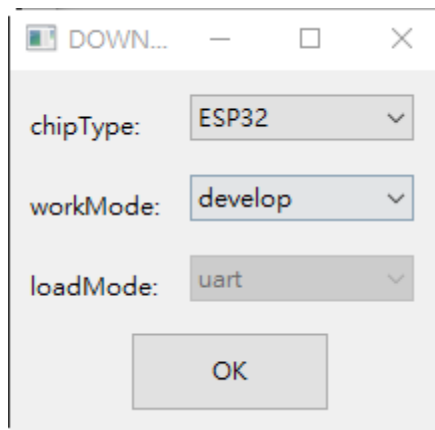

Figure 3-29 ESP32 DOWNLOAD TOOL Query Dialog
7. An ESP32 DOWNLOAD TOOL query dialog appears, as show in **Figure 3-29**. Select “ESP32” chipType, “develop” workMode, and then click “OK” button.
7. An ESP32 DOWNLOAD TOOL query dialog appears, as show in Figure 3-29. Select “ESP32” chipType, “develop” workMode, and then click “OK” button.